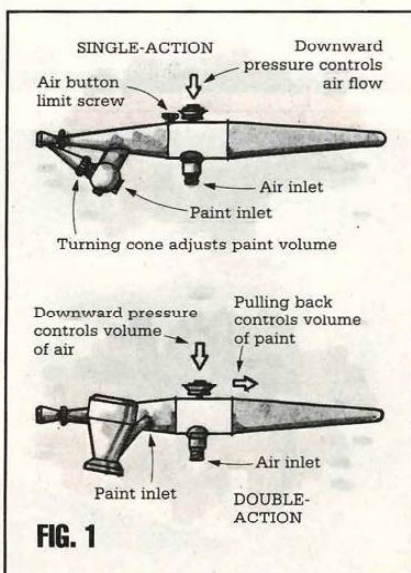

FIG. 1
**Choosing the right airbrush** — There's more than one kind of airbrush, and while most are suitable for modeling, some are more suitable than others. Airbrushes are classified by whether the control button governs only the flow of air (single-action), or both air and paint (double-action), and whether paint is mixed with air inside the body of the airbrush (internal mix) or outside (external mix), fig. 1.